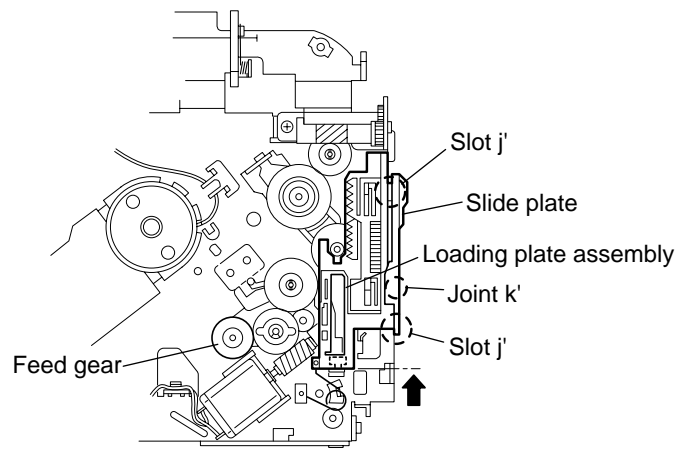

Fig.33
■ Removing the gears (See Fig.33 to 36)